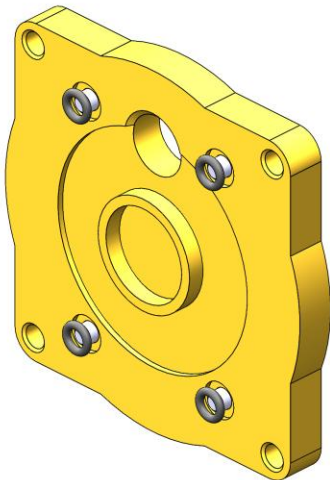

Figure 11: 7170 Maintenance Small Housing O-Rings Close-up
6. Remove and replace small housing O-rings (4x). Refer to Figure 11.